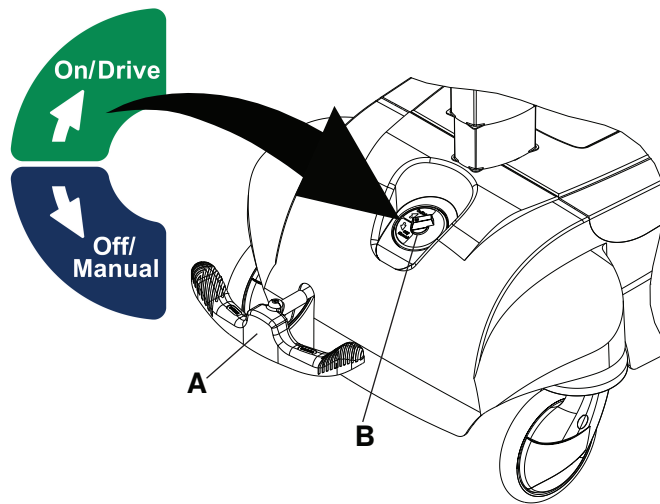

Figure 17 – On/Drive-Off/Manual switch
4. Push down on the steer (green) side of the brake/steer pedal (A) to put the brake/steer pedal in the steer position (Figure 17).